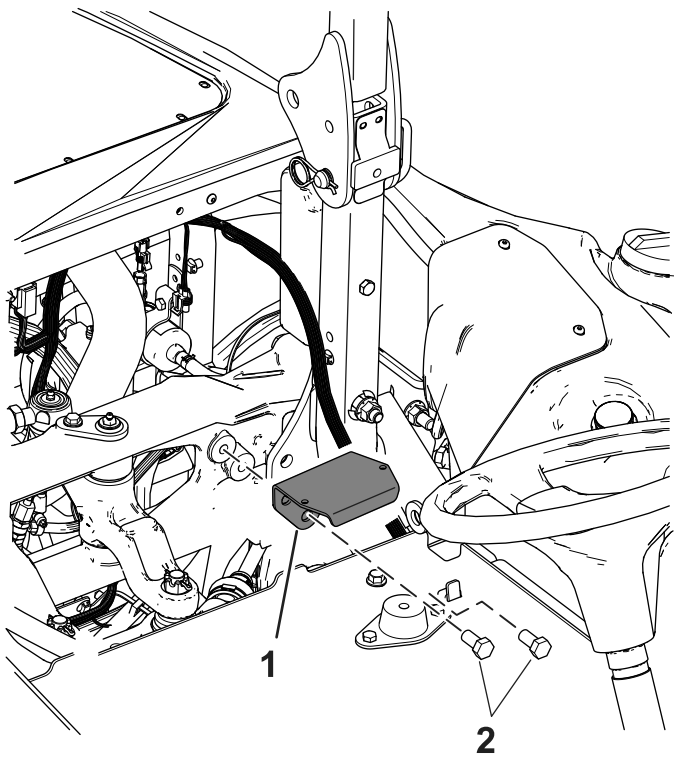

Figure 3
4. Install the sensor bracket to the frame with 2 bolts (1/2 x 1 inch); refer to Figure 3.